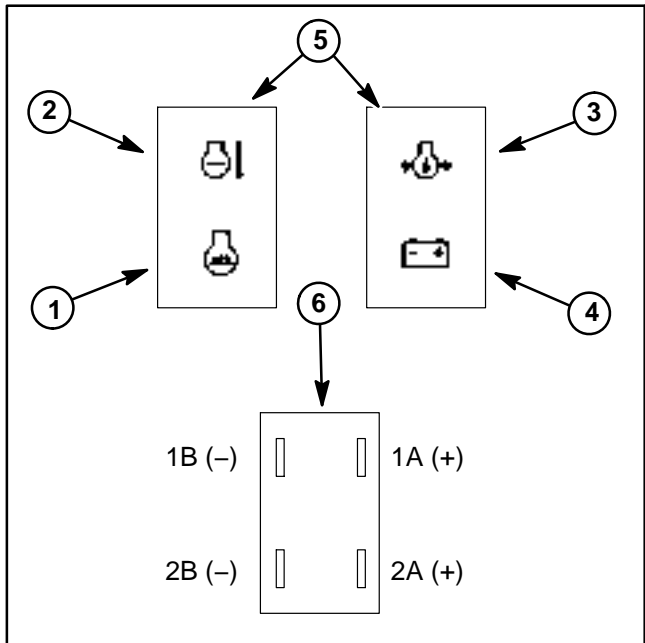

Figure 25
1. Apply 12 VDC to terminals 1A and 2A (Fig. 25).
2. Ground terminals 1B and 2B (Fig. 25).